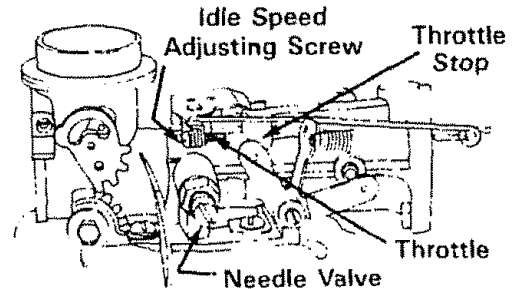

FIGURE 16.
1. Close needle valve (See figure 16) clockwise (↻) finger tight only. Forcing may cause damage. Then open 1-1/2 turns counterclockwise (↻).